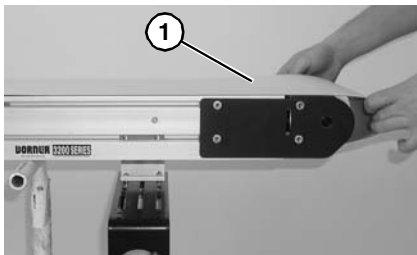

Figure 30
5. Remove belt (**Figure 30, item 1**) from conveyor, one stand at a time. Start on one end of conveyor and work down to opposite end.